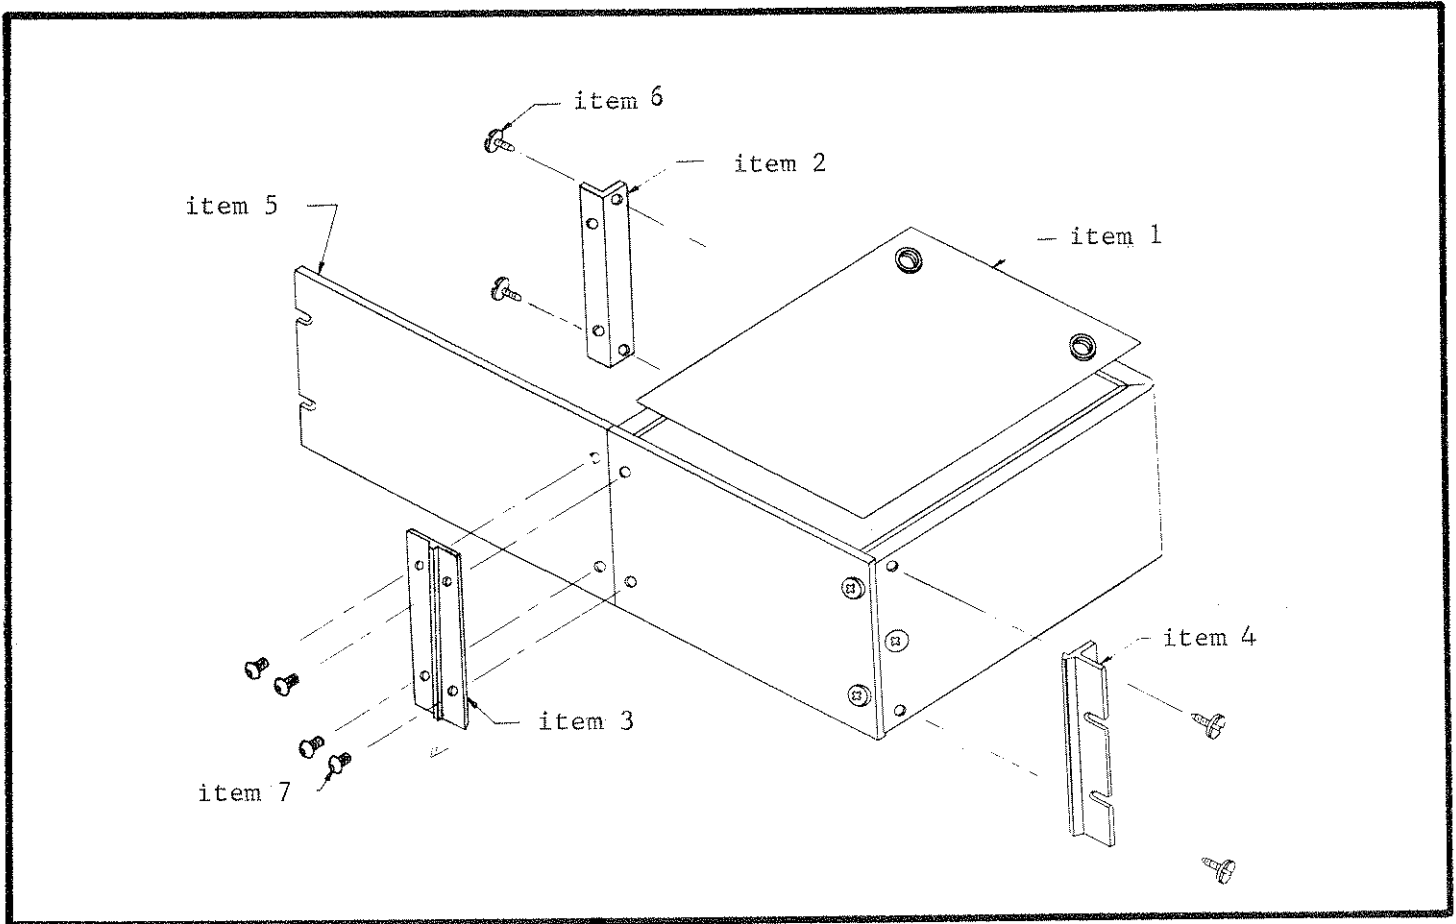

FIGURE 10. Assembly Drawing for Model 4003A Rack Mounting Kit.
b. Procedures. Remove the wrap-around cover on the Source by removing the two corner screws at the bottom of each side. Add the rack mounting parts to the Source as shown in Figure 10. Attach in this order: cover (1), rack angle (5), panel support angle (2), rack panel adapter (7), and chassis connecting plate (3).